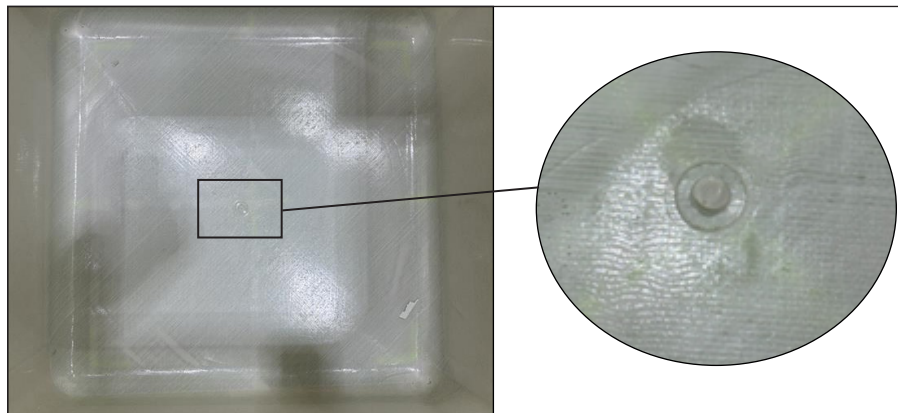

Figure 1 — Resin Burr
5. Inspect the platform floor for a resin burr. The burr will be located in the center of the floor and will be raised approximately $\frac{1}{16}$ " to $\frac{1}{4}$ " (refer to Figure 1). Use soap and water to clean the platform shell, if necessary.